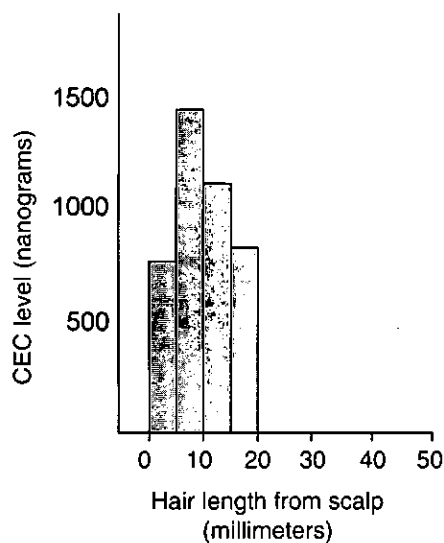

Figure 1.
1. The so-called "Poisoned Professor Case"⁴ which attracted international attention provided an enormous scientific challenge because of the time lapse between the onset of the "illness" and sampling. ESR and Swedish toxicologists analysed blood samples and, in their view, clearly established that Professor Lloyd had been exposed to a toxic dose of acrylamide. The analyses of sections of individual hairs found massive levels of acrylamide adduct (CEC) in a narrow band which was consistent with the ingestion of the chemical around the time of the onset of the "illness". Figure 1 shows the results from single hair analyses for CEC and the combined profile. Participants at the recent International Association of Forensic Toxicologists Conference considered that this work provided an important advance in establishing the value of hair analysis.